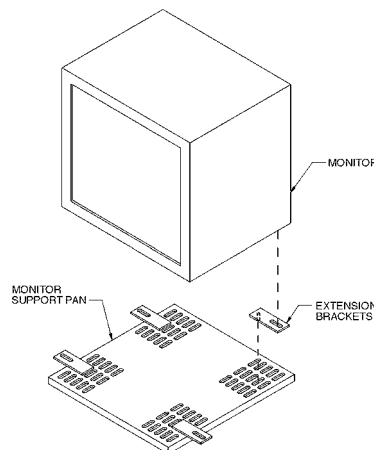

Figure 2. Attaching Support Pan Extension Brackets
3. If the monitor mounting hole pattern does not align with slots in support pan, use extension brackets provided and attach them to monitor base (see Figure 2). Then place monitor and brackets onto support pan and tighten nuts (provided) to secure monitor.